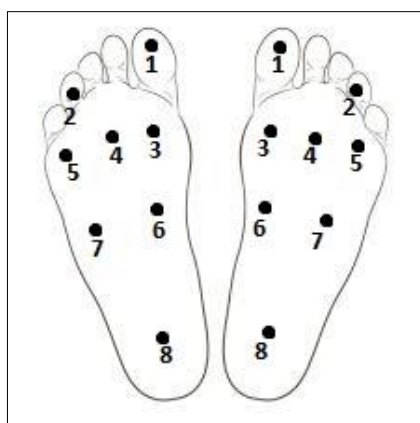

Figure 4: 8 points on the foot
- The eight points were marked on the foot Figure 4.